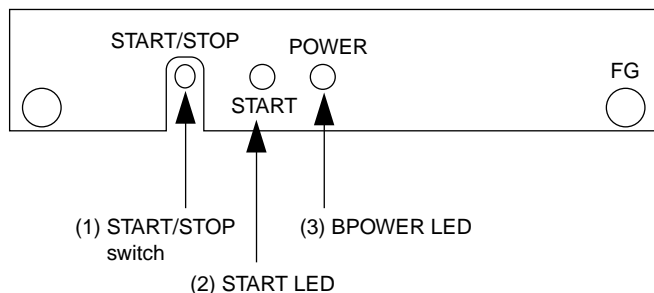

Figure 3.15 Ending the Writing Process
(11) Ending the On-Board Programming Process
Pressing the START/STOP switch on the front of the adapter board ((1) in figure 3.15) turns off the START LED (red). You can now end the programming process, remove the adapter board, and check that the newly written program runs correctly.
(13) Ending the on-board programming process
Pressing the START/STOP switch on the front of the adapter board ((1) in figure 3.15) turns off the START LED (red). You can now end the writing process, remove the adapter board, and check that the newly written program runs correctly.